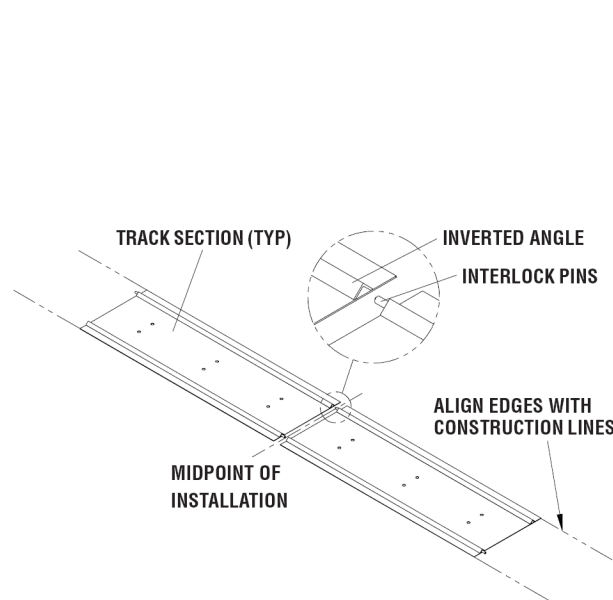

Figure 9
1) Position and assemble the track on the foundation (Figure 9 & p. 47).